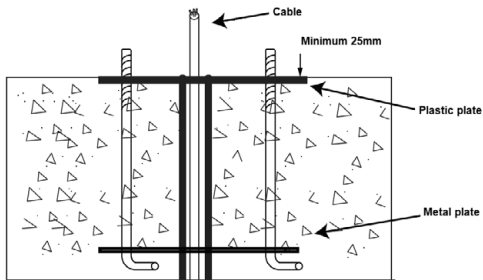

Fig. 1
- **If fixing into fresh concrete:** insert the anchors into the two plates, the metal one at the bottom and the plastic one at the top ensuring to leave at least 25mm above the surface and set it into wet concrete (see Fig. 1)